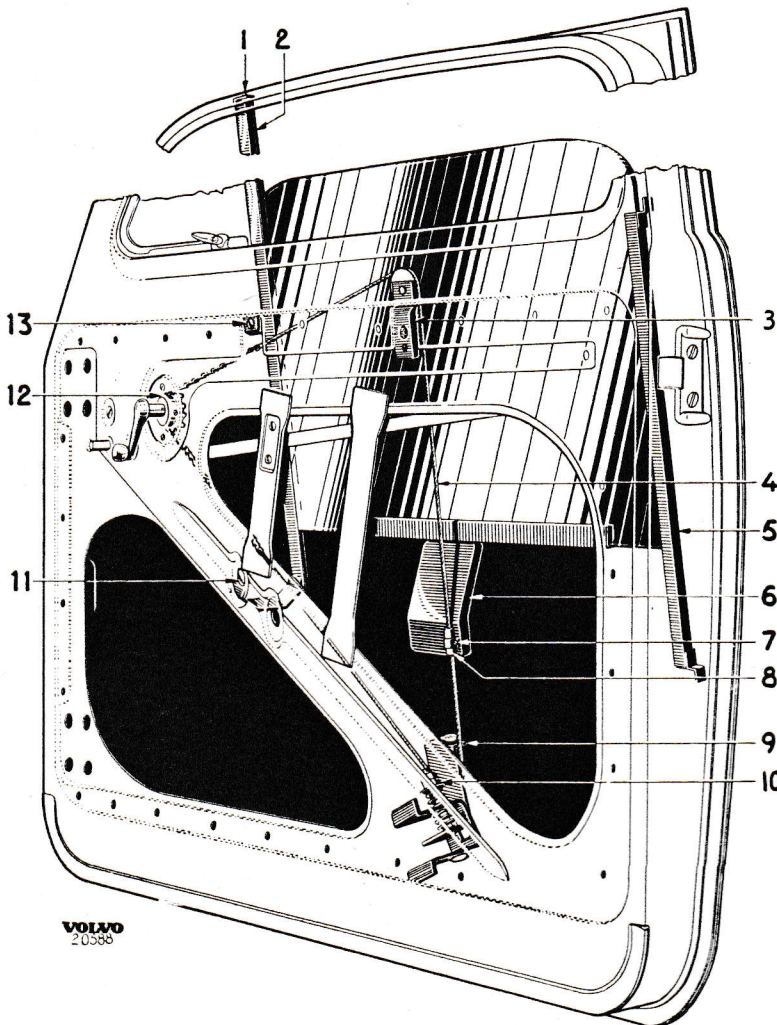

Fig. 25. Window lift.
5. Remove the upper screw (1, Fig. 25) and the central screw (13) which retain the front run channel (2).
6. Remove connector sleeve (7) which retains connector to regulator channel (6).
7. Release load on the tension device (9) by loosening the nuts (10) to the tension screw on the lower roller. Remove the wire and chain.
8. The upper roller (3), the lower roller with tension device (9) and the window regulator cog (12) as well as the run channels (2 and 5) are removed if required.